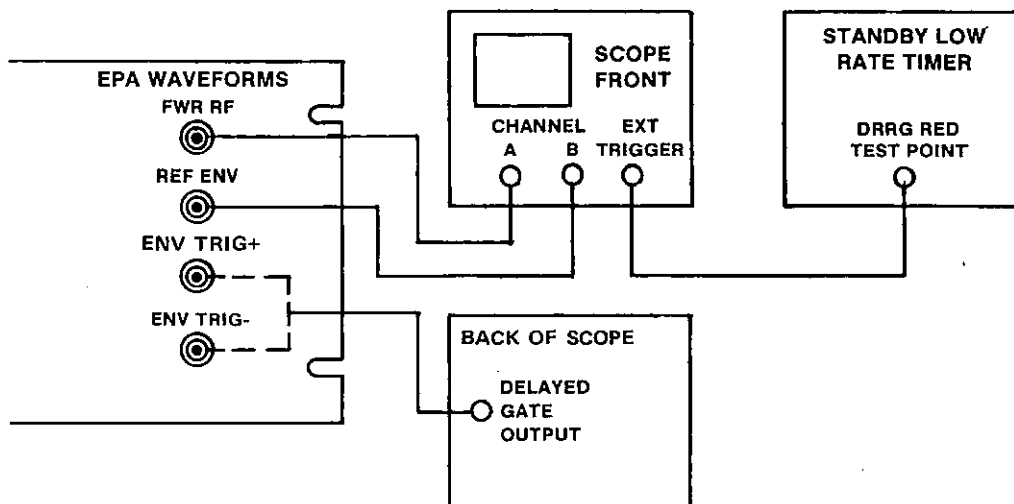

Figure 2.17. Oscilloscope Connections for Monitoring EPA Waveforms
2.6.3.7 Observe the EPA Full Wave Rectified RF, Reference Envelope, and chart recorder drive as follows (see Figure 2.17):